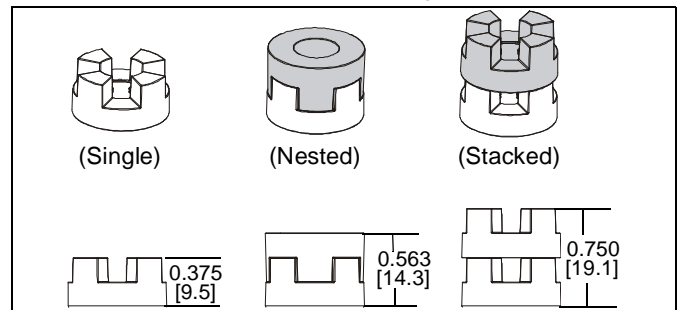

Figure 7
NOTE: The nesting spacers (MA) may be used separately, or put two together in different configurations to create different size spacers. (See Figure 7)